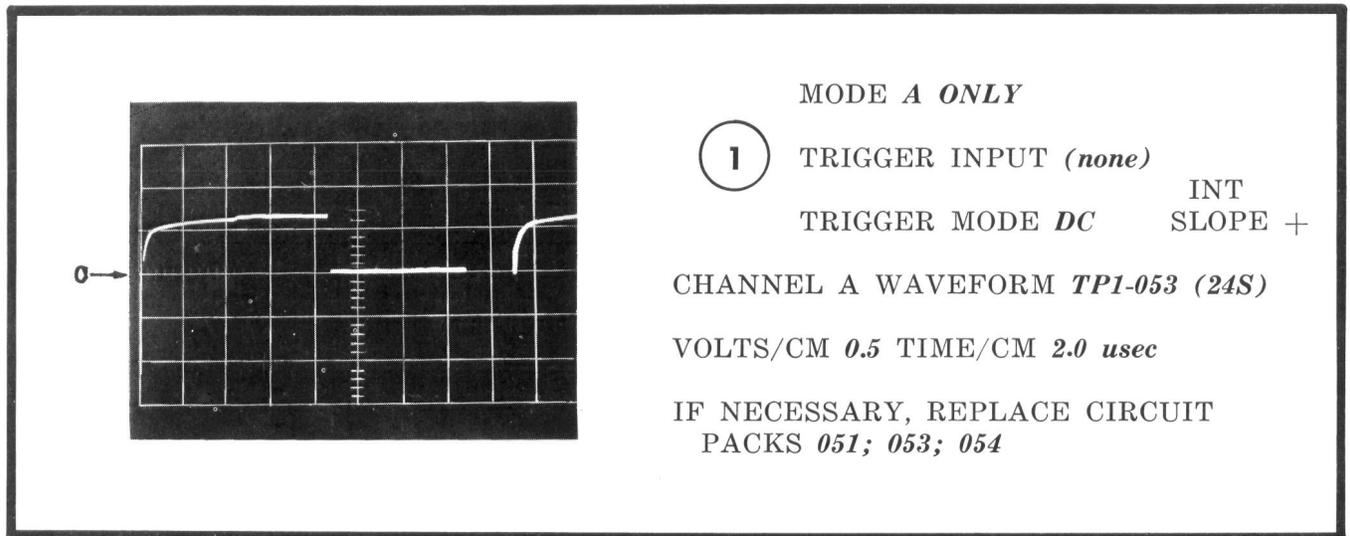
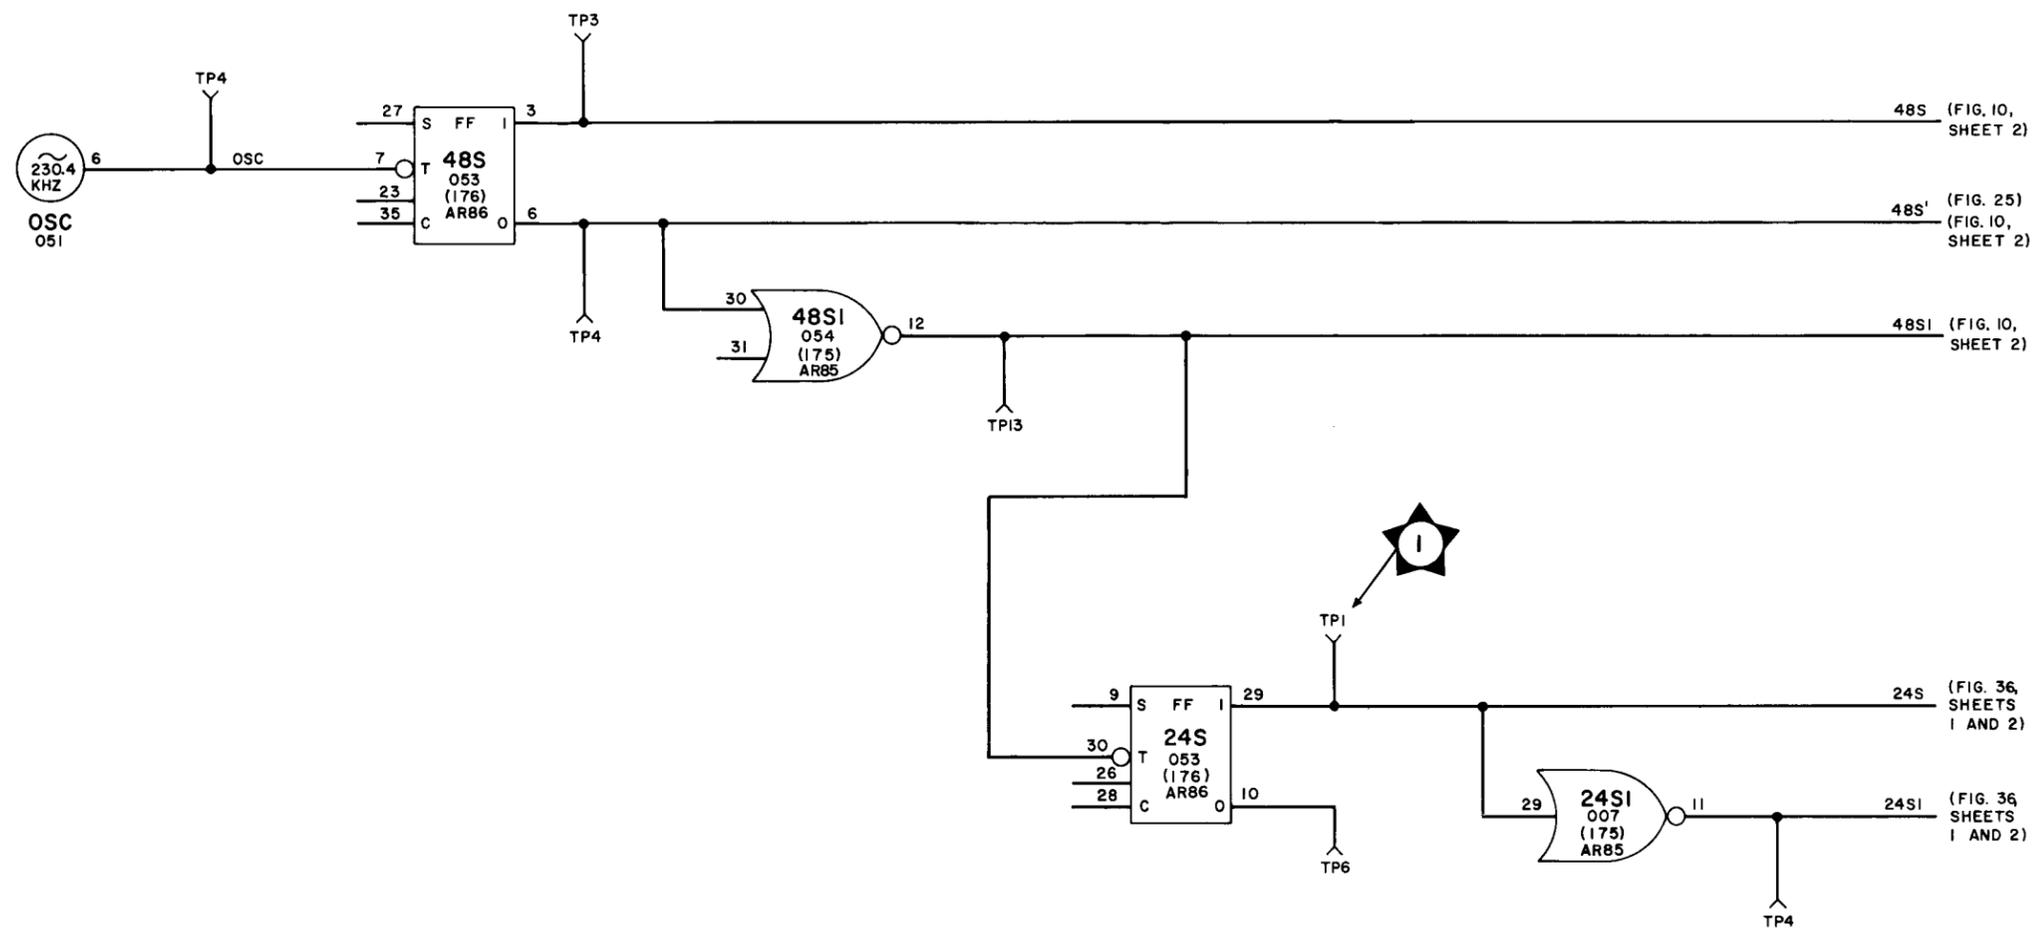

Fig. 5 — Clock Circuit Test
Fig. 6 — Clock Circuits, Functional Schematic
9.17 The clock circuit consists of a 65A oscillator and associated countdown circuits. The clock circuit components generate square-wave signals at frequencies required by both transmitter and receiver sections of the data set. The waveform shown in Fig. 5 represents normal operation of the clock circuit and is keyed to the respective test point on the functional schematic shown in Fig. 6. Replace the suggested circuit packs if the proper result for the test is not obtained.